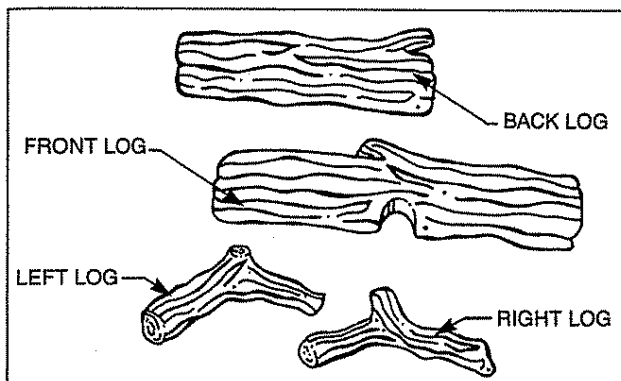

Fig. 22. Cement logs.
Step 12. Unpack cement logs. Check logs for cracks and damages. There should be four (4) cement logs in the box. (See Fig. 22.)